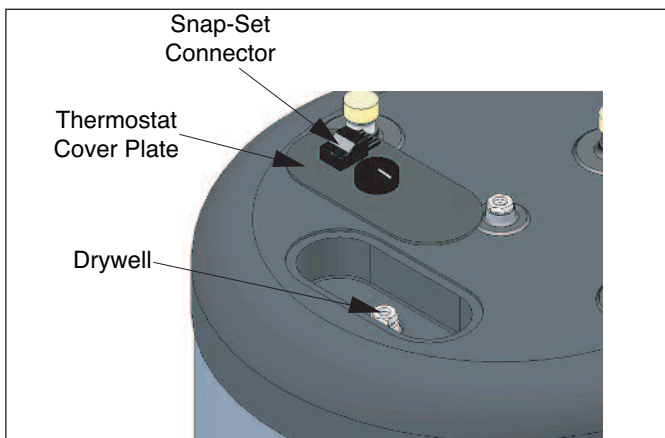

Fig. 1: Smart Thermostat Cover Plate Access
1. Remove the thermostat cover plate from the SMART lid. A flat blade screwdriver may be required to pry the cover plate up from the lid. Use care not to damage the cover plate or the SMART top lid. See Figure 1.